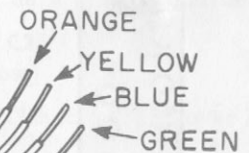

FIGURE 20. HOW TO PREPARE THE 9-CONDUCTOR CABLE "B"
- ✓ Cut 15 $\frac{3}{4}$ " of 9-conductor cable and carefully remove 2 $\frac{3}{4}$ " of the outer insulation from one end. Prepare the 9 wires at this end as shown in Figure 20.
- ✓ Remove 6 $\frac{1}{4}$ " outer insulation from the free end of the B cable. Prepare the red, black, white and brown wires as shown in Figure 20.